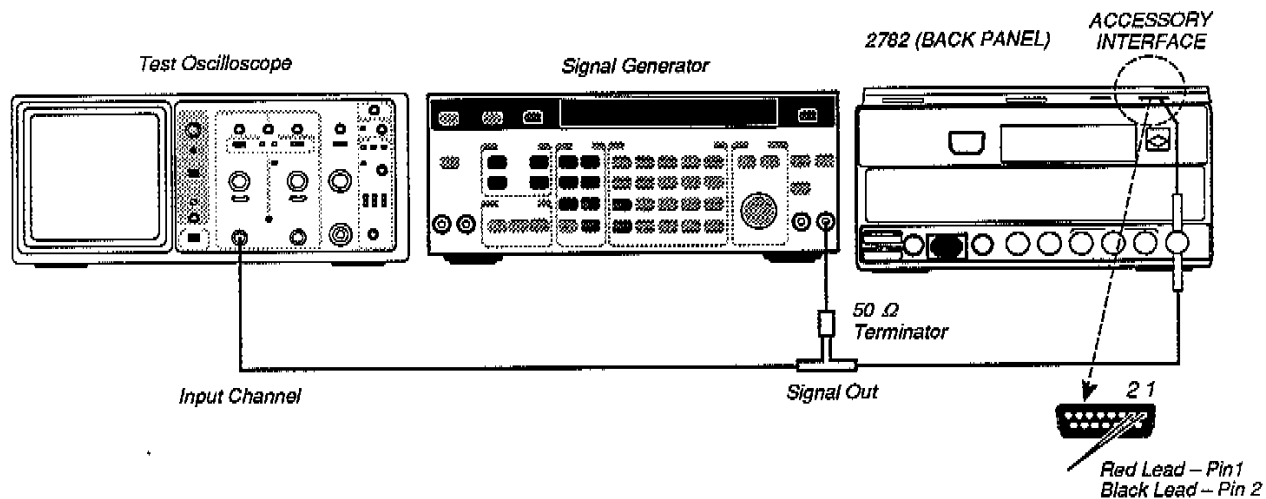

Figure 2-20. Test Equipment Connections for Internal Trigger Check.
- b. Connect a BNC-Tee connector to the TRIG/HORIZ IN connector on the 2782 rear panel (as shown in Figure 2-20).
- a. The test equipment should still be set up as shown in Figure 2-20. If it is not, connect the equipment as describe in steps b through d for performance-verification checks 307-309 above.